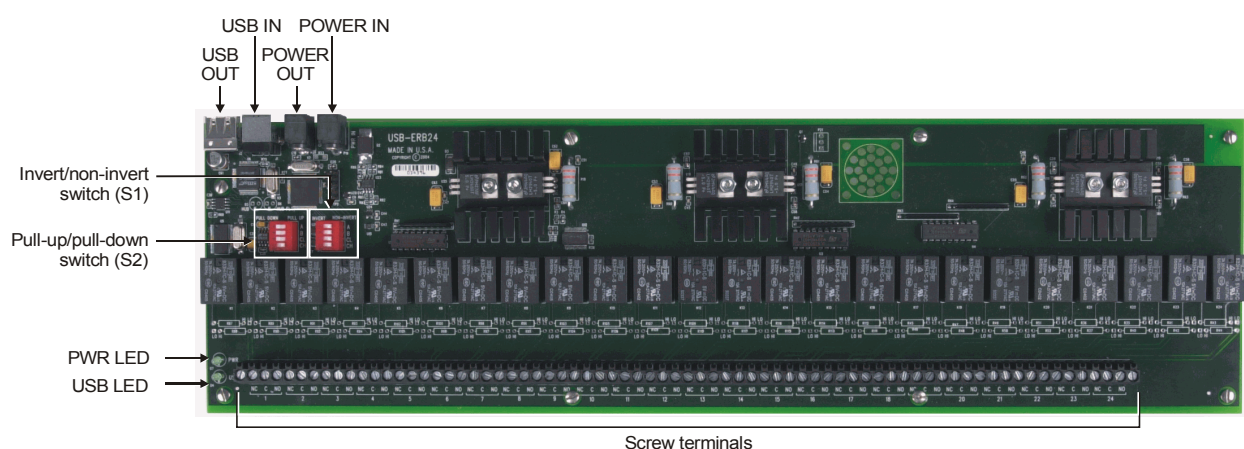

Figure 3-1. USB-ERB24 components
The USB-ERB24 has two on-board switches that you set to configure the relay logic polarity and the resistor pull-up/down configuration. Configure these switches before you connect the external power supply to the USB-ERB24. Factory-configured default settings are listed in Table 2-1. Refer to Figure 3-1 for the location of each switch on the USB-ERB24.
The USB-ERB24 has two on-board switches that you set to configure the relay control logic polarity and the relay power-on state. Factory-configured default settings are listed in Table 2-1. Refer to Figure 3-1 for the location of each switch on the USB-ERB24.
1. Connect the external power cord to the power connector labeled **POWER IN** on the USB-ERB24 enclosure (**PWR IN** on the board). Refer to Figure 3-1 for the location of this connector.
The USB-ERB24 has the following internal components, as shown in Figure 3-1.